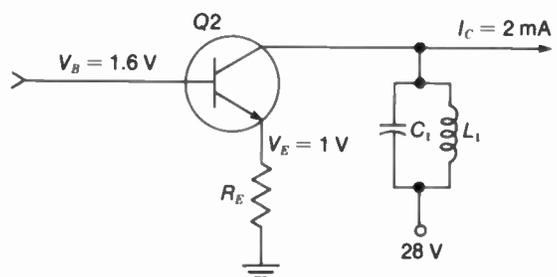

FIGURE 28-19 FOR PROBLEM 2.
2. Refer to the CE amplifier in Fig. 28-19 with the tuned LC circuit as the collector load. (a) How much is the normal  $V_C$ ? (b) Normal  $V_{BE}$ ? (c) How much will a voltmeter read at the emitter to ground with  $R_E$  open?